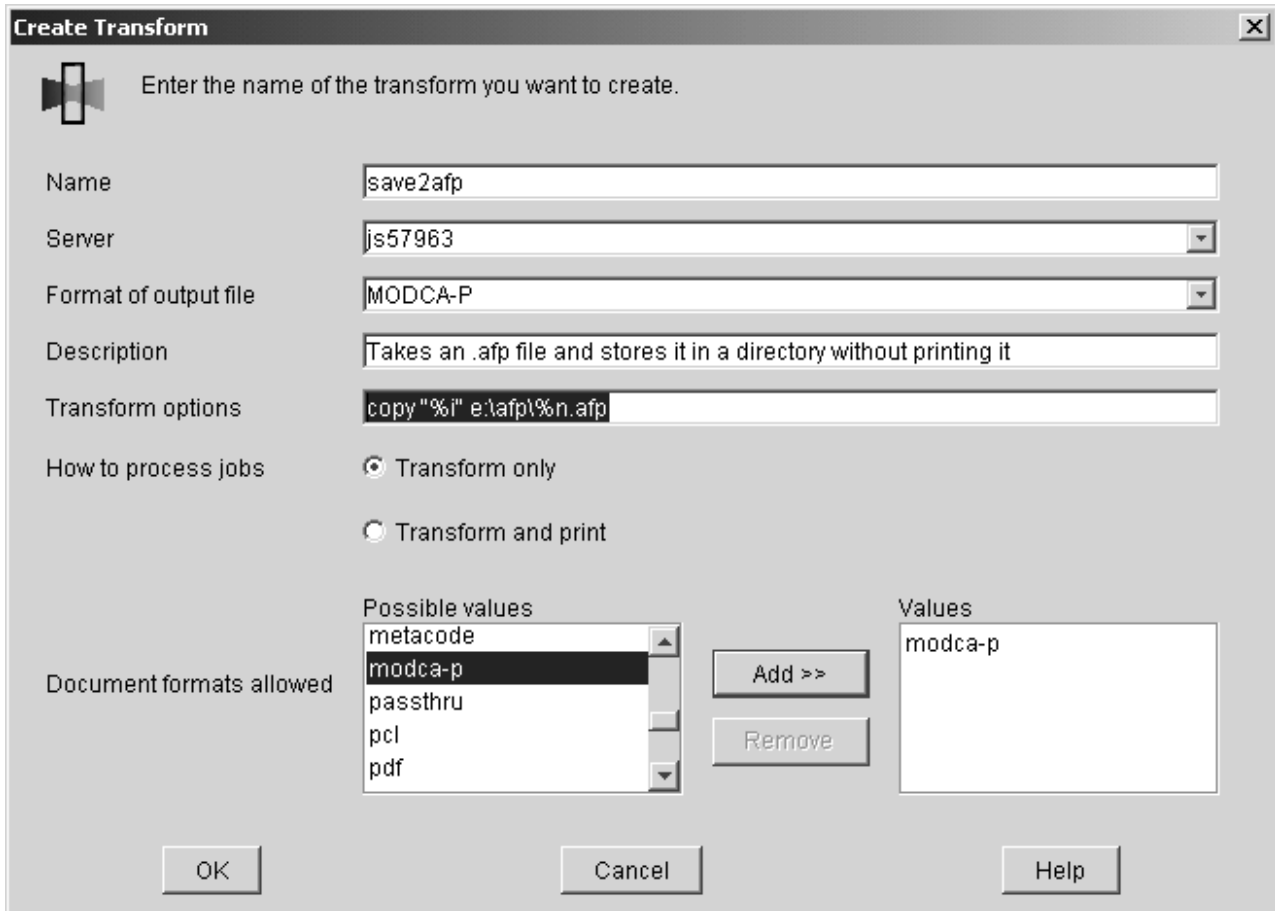

Figure 55. Create Transform dialog: define a transform that copies an AFP file to a directory without printing it
3. In the **Create Transform** dialog, fill in the fields as shown in Figure 55 on page 192. These values create a transform that copies AFP input data to an `\afp` folder on a specific drive.